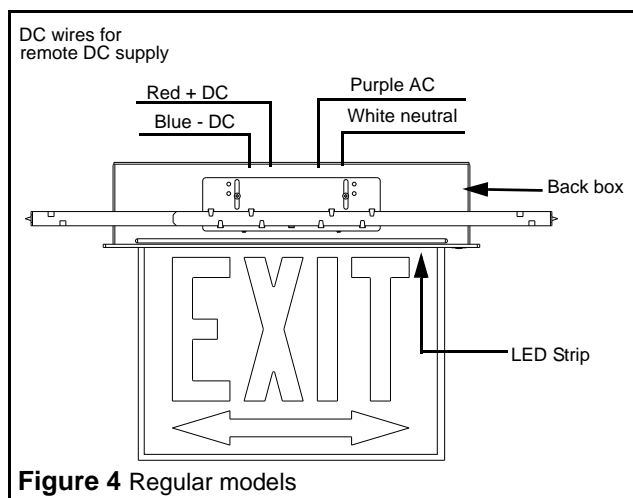
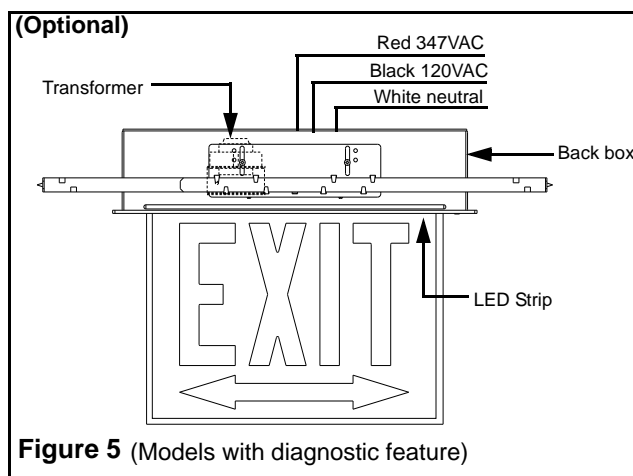

Figure 4 Regular models
Figure 5 (Models with diagnostic feature)
5. **Electrical connection (Figures 4, 5)**
- b. Make the proper connections. The system can accept input voltages of 120 VAC to 347 VAC. For regular models connect the purple (line) and white (common) leads to the building utility (see figure 4). For models with diagnostic feature or nexus interface, connect the white (common), black (120 VAC) or orange (277 VAC) leads to the building utility (see figure 5).